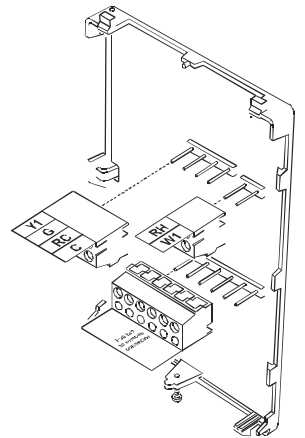

Figure 4: Removing the Screw Terminal Blocks
- Pull the pull-tabs on each of the connectors and remove the screw terminal blocks as illustrated in Figure 4.